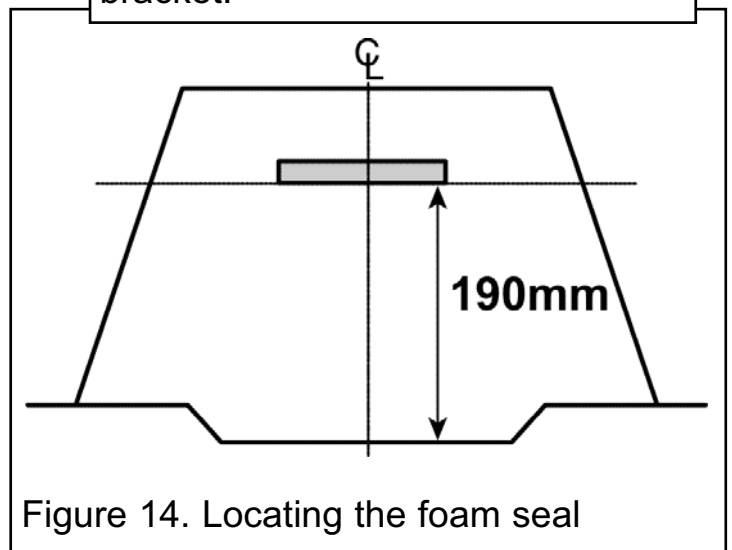

Figure 14. Locating the foam seal
- Supplied with the convector box is a small piece of self adhesive foam seal. Remove the paper backing and locate this to the base of the convector box as in figure 14.